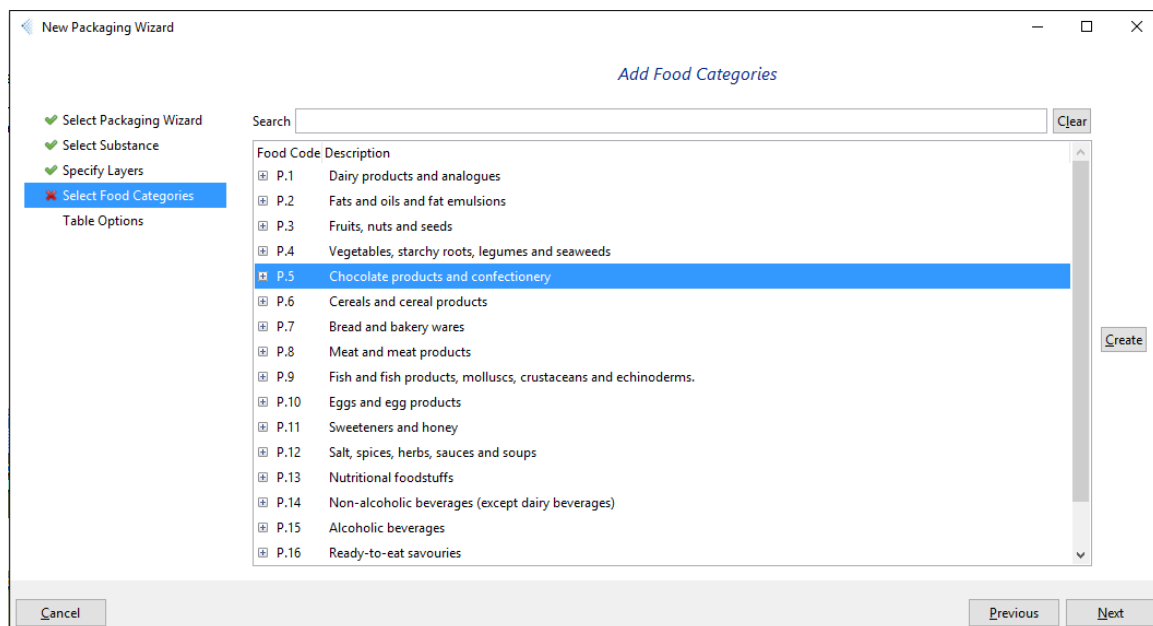
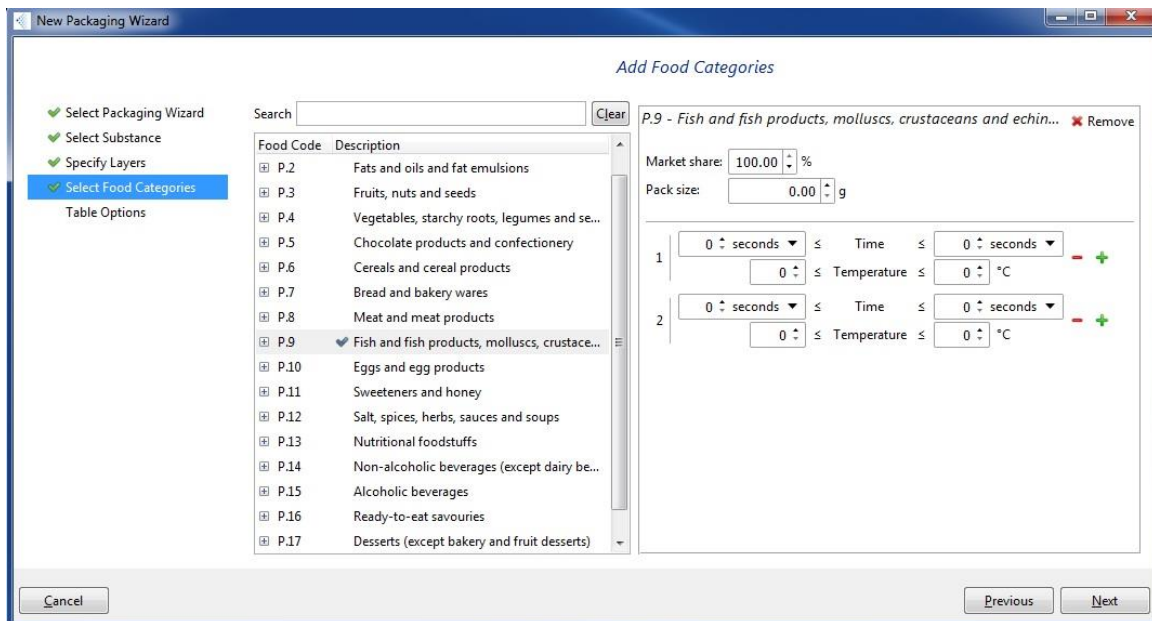

Figure 77: Select Food Category and then click Create
Figure 78: Insert Time Temperature profile for the selected Food Category
- The foods used for the assessment can be selected from the list, which has a search box at the top. Once a food is selected, click on the “Create” button (Figure 77). This will open a new panel on the left-hand side (Figure 78).